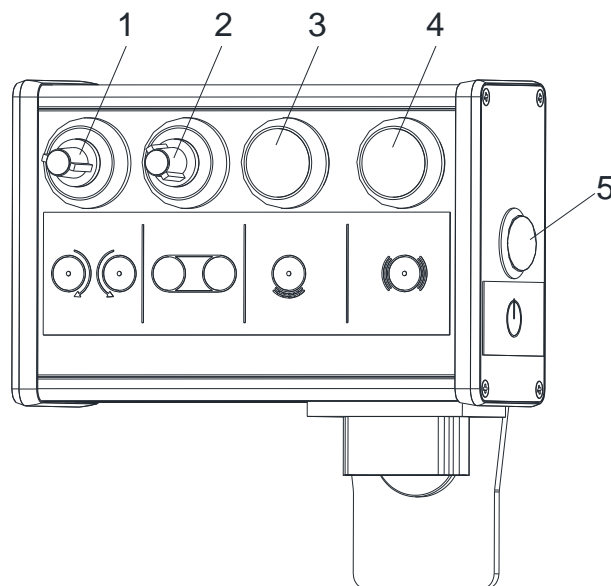

Fig. 40 PotiPro Compact (hybrid)
2. Press the On/Off illuminated button (Fig. 40/5). The PotiPro Compact operating device is switched on, the spreader discs start to rotate and accelerate up to the set speed.
3. If necessary, set the disc speed using the rotary control for disc speed (Fig. 40/1).
4. When the On/Off button for conveyor unit (Fig. 40/3) is pressed, the shutter is opened and the conveyor belt accelerates to the set transport speed.
5. When the On/Off button for conveyor unit (Fig. 40/3) is pressed again, the conveyor belt stops and the shutter closes.
6. If necessary, set the transport speed using the rotary control for conveyor speed (Fig. 40/2).
7. If you want to switch on the optional vibration motors, press the On/Off button for vibration motors (Fig. 40/4). The vibration motors remain running for 10 seconds and are then automatically switched off.